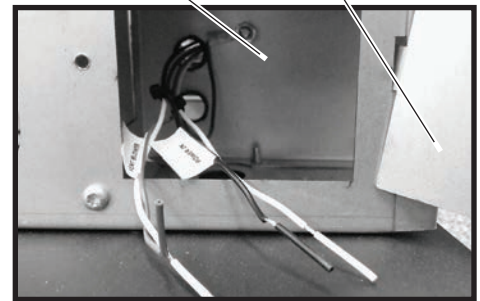
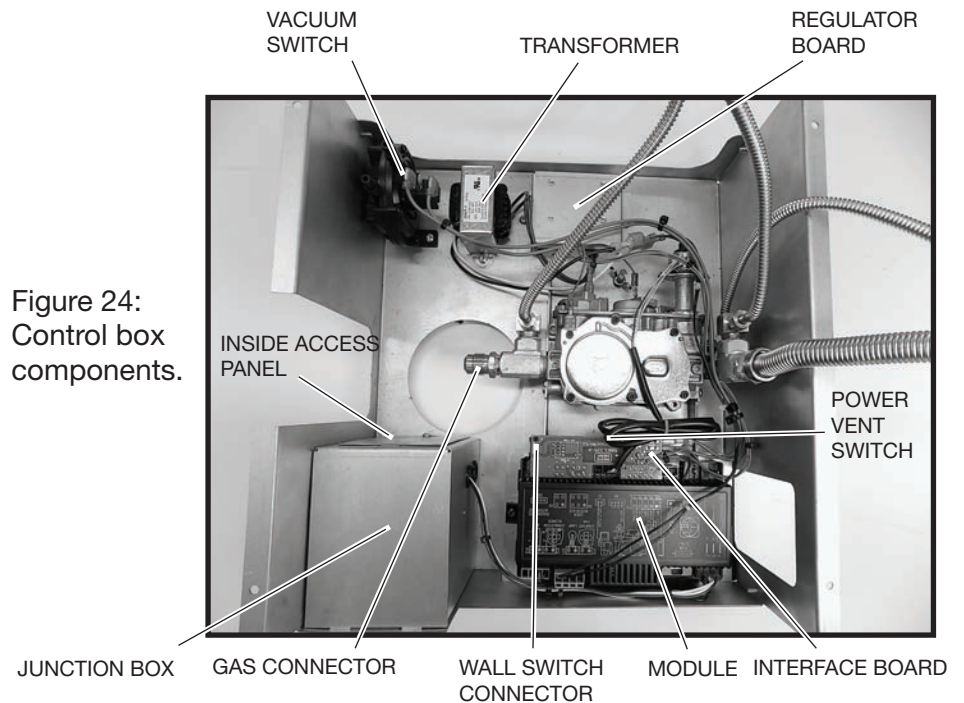
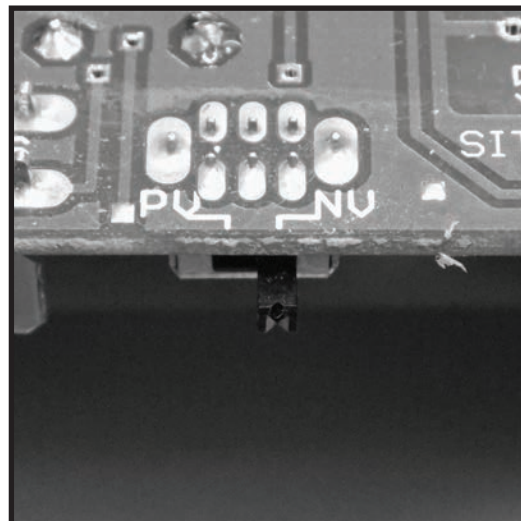

Figure 23: Junction box wiring.
Figure 24:
Figure 28: Vent mode selection switch.
4. Connect 110 V. AC electrical supply to the wires installed inside the junction box (Figure 23). The fireplace is rated at 110 volts, 60Hz, 0.25A. The optional power vent kit is rated at 115 volts, 60Hz, 1.8A.
The electrical wires can be accessed from both inside and outside the junction box by removing one of the two small access panels (Figure 23 & Figure 24) .
7. Attach one end of the wall switch control cable to the wall control (Figure 26), and the other end to the interface board (Figure 24).
The NV / PV (Natural Vent / Power Vent) switch (Figure 28) on the interface board (Figure 24) is set according to which type of evacuating vent system is present. If the fireplace is vented without the assistance of a power vent, the switch should be set to "NV". If using a power vent, "PV" should be selected. Follow the instructions provided with the power vent kit for proper installation.
1. Connect the gas supply to the valve (Figure 24).